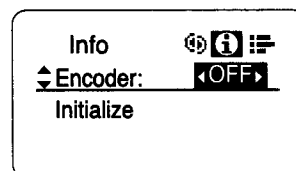

Fig7-2
3. Move the down key. (Fig.7-2)